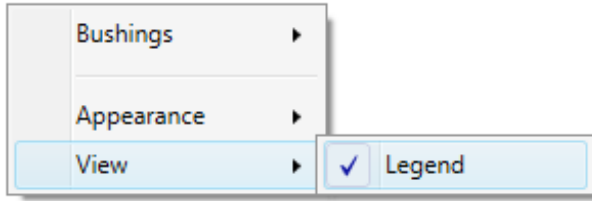

Figure 4-68: View shortcut menu
- The Phase option offers a choice of phases A, B or C as shown in Figure 4-68.
- The View option toggles the Legend On or Off as shown in Figure 4-68.